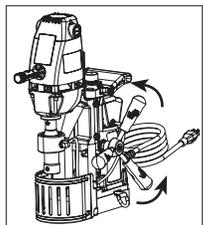

Figure 9
3. Using the feed handles, advance cutter into material until Slugger® cutter has established an external groove in the material. During the remainder of cut, apply smooth constant pressure without overloading motor. **(Figure 9)**